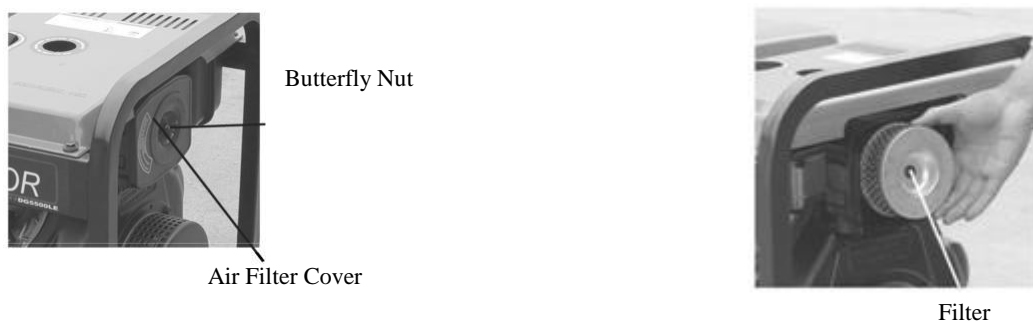

Figure 10
- \* To check the air filter; loosen the butterfly nut, take the cover of the air filter off and take the air filter element out as shown on **Figure 10**.